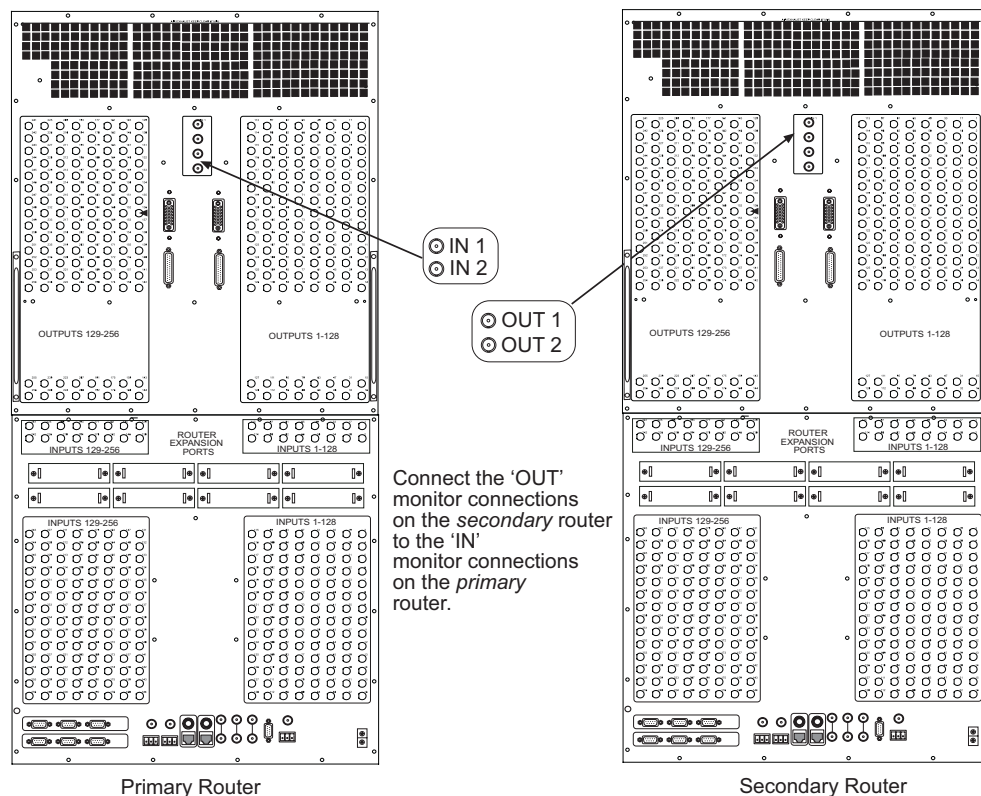

Figure 3-15. Monitor Expansion Connections Between Two Routers (Rear View)
- 3 Connect the other end of the cable to the 'IN 1' monitor connection on the *primary* router using a 75 Ω BNC connector (the router with direct connections to the monitoring equipment), as shown in Figure 3-15.
- 5 Connect the other end of the cable to the 'IN 2' monitor connection on the *primary* router using a 75 Ω BNC connector, as shown in Figure 3-15.